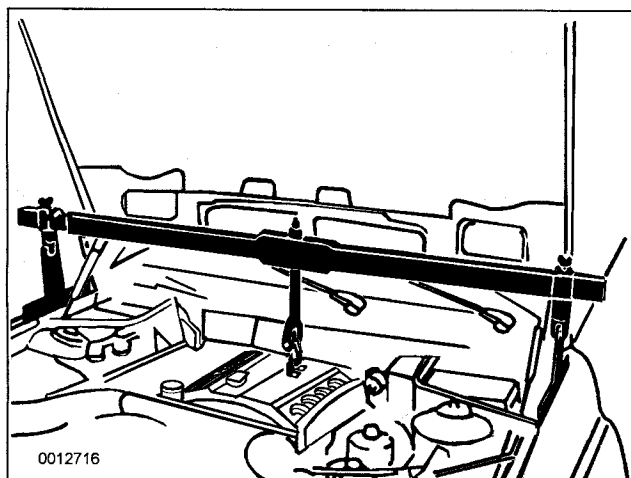

Fig. 16. Support equipment used to support engine from above.
1. Using engine support equipment, raise engine until weight of engine is supported. See **110 Engine Removal and Installation**. See Fig. 16.